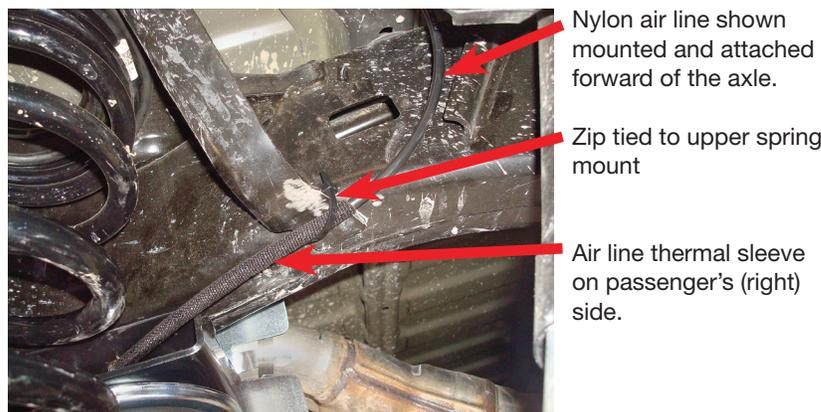
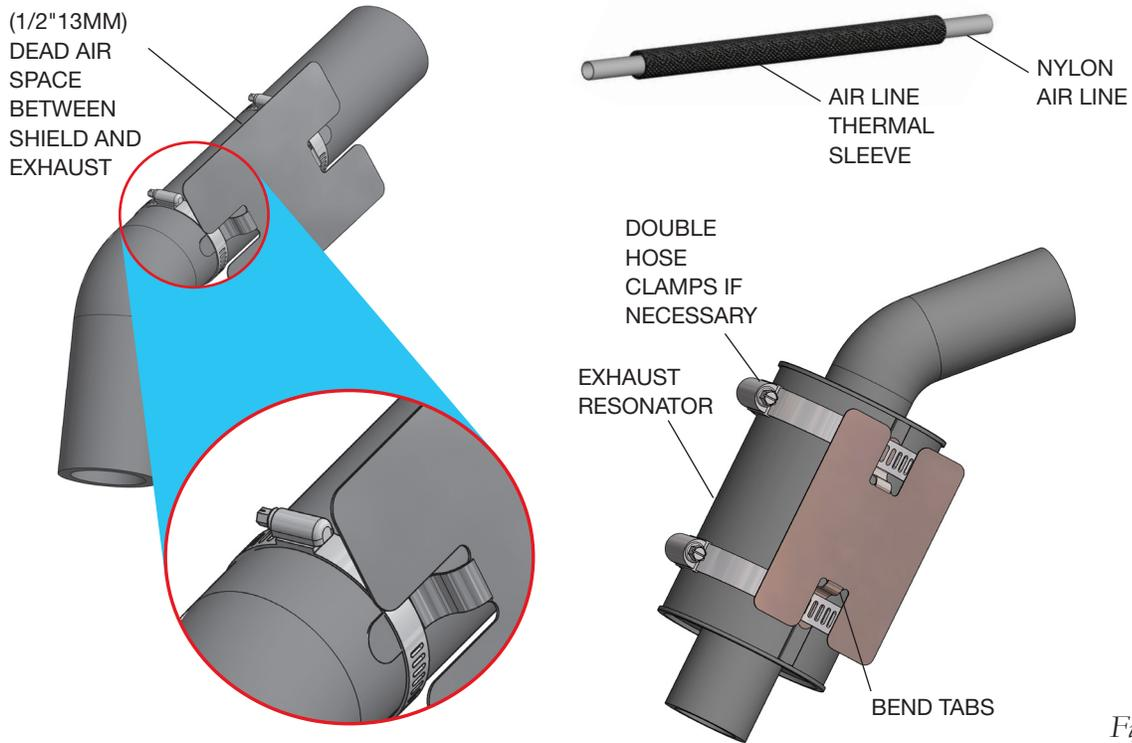

Fig. 26
Fig. 27
5. It is recommended that the air line be routed along the top of the frame, forward of the axle, then down to the fitting (Fig. 26). After cutting the air line to length, install the air line thermal sleeve over the air line on the passenger's (right) side before inserting into the fitting. Secure the air lines to the upper coil spring mount with zip ties (BB) supplied. Also see Figure 27.
1. Attach the metal heat shield to the exhaust where it is closest to the air spring. Slide the air line thermal sleeve over the nylon air line and place it where the air line is closest to the exhaust (Fig. 27).